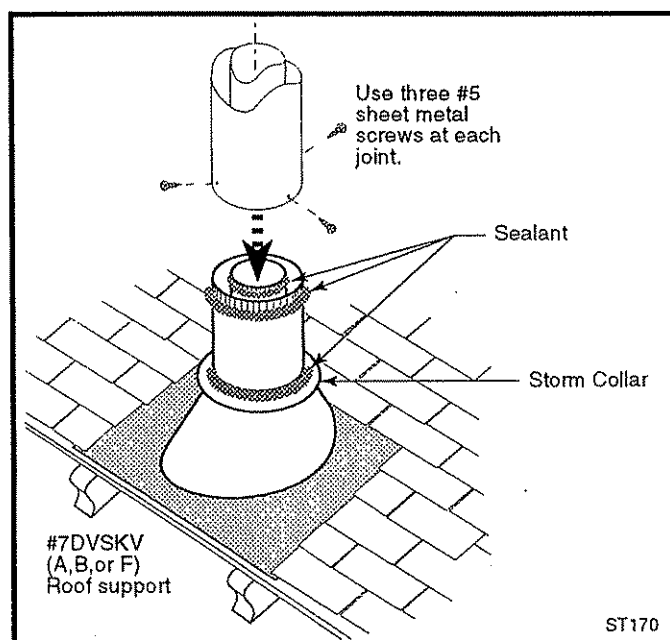

Fig. 39 Roof support and flashing.
7. Install the appropriate roof support and flashing, making certain that the upper flange of flashing is below the shingles. (Fig. 39)
9. Install the Storm Collar and seal around the joints. (Fig. 39)